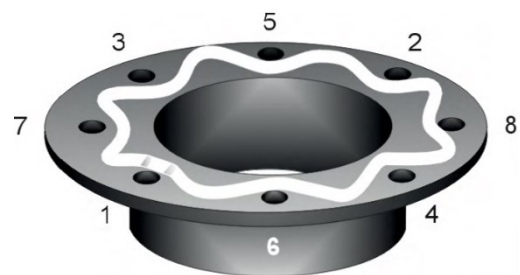

Fig. 2
- In the case of stress-sensitive flanges, lay on the outside and inside or in a serpentine line (Fig. 2). Bevel ends as shown in Fig. 3 and OVERLAP according to recommendation. Cut off overhang towards the end so that a total of approx. 120 % of the height remains.